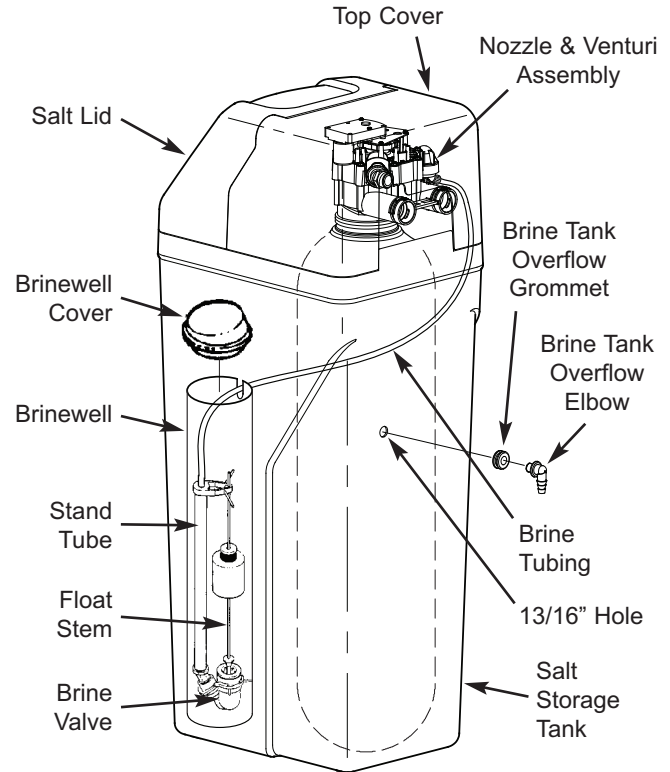

FIG. 11
1. Rheem® models are factory assembled. During installation, unsnap and remove the top cover, together with the salt lid, to expose the softener valve assembly. Set them aside to prevent damage. Check the brinewell to be sure it is secured and vertical (See Figure 11).